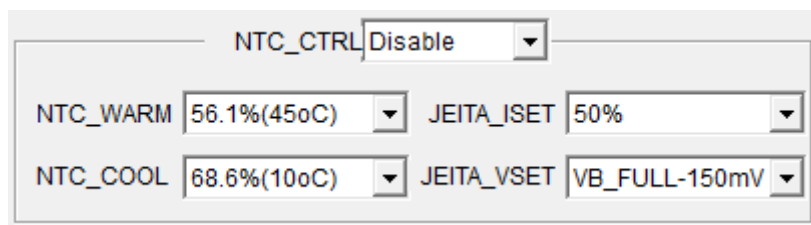

Figure 17: NTC Configuration
15. Set the NTC functions (see Figure 17).